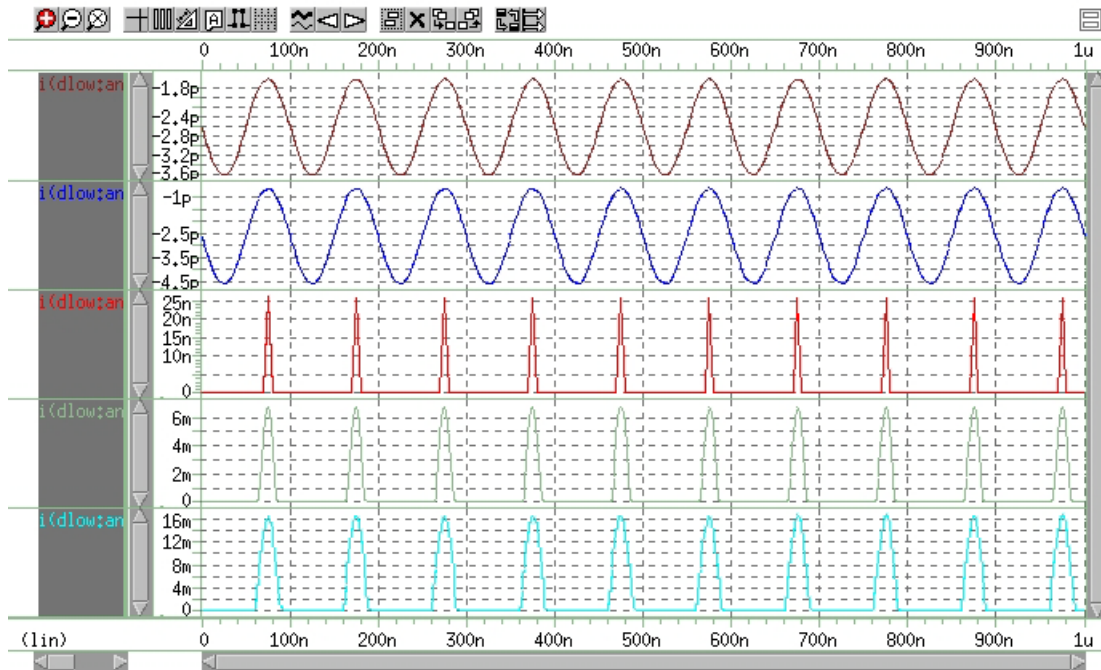

Figure 287 Plot of Current through Diode dlow vs. Time
12. Click the ungroup panels icon () on the WaveView panel tool bar to display a plot similar to the one shown in Figure 287 on page 1191.